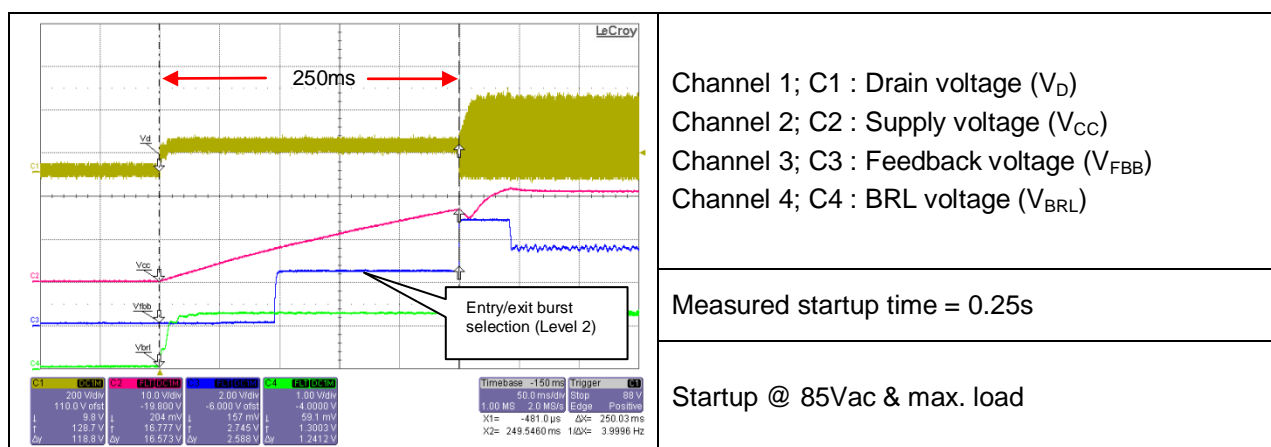

Figure 4 The startup delay time at AC line input voltage of 85Vac
Startup time is counted from applying input voltage to IC turn on. ICE3ARxx80CJZ has a startup cell which is connected to input bulk capacitor. When there is input voltage, the startup cell will act as a constant current source to charge up the Vcc capacitor and supply energy to the IC. When the Vcc capacitor reaches the Vcc_on threshold 17V, the IC turns on. Then the startup cell is turned off and the Vcc is supplied by the auxiliary winding. Start up time is independent from the AC line input voltage and it can be calculated by the equation (1). Figure 4 shows the start up time of 85Vac line input.
Therefore, the minimum V_{CC} capacitance can be $4.9\mu F$. In order to give more margins, $10\mu F$ is taken for the design. The startup time $t_{StartUp}$ is then $0.19s$. The measured start up time is $0.25s$ (Figure 4). A $0.1\mu F$ filtering capacitor is always needed to add as near as possible to the V_{CC} pin to filter the high frequency noise.